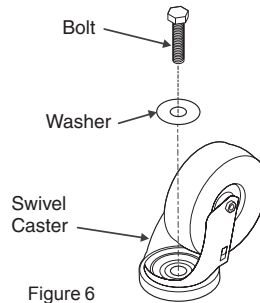

Figure 6
- Place a washer on one of the four long bolts and then feed the bolt through the hole in one of the swivel casters (see Fig. 6).